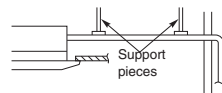

Fig. 3-14
- Do not apply force to the piping on the unit side when connecting the drain pipe. The pipe should not be allowed to hang unsupported from its connection to the unit. Fasten the pipe to a wall, frame, or other support as close to the unit as possible. (Fig. 3-14)